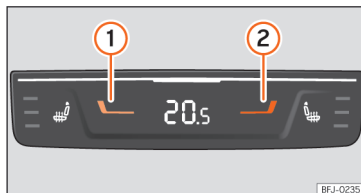

Fig. 114 To the rear of the centre console: Climatronic rear seat temperature controls.
- Press buttons **1** and **2** »» Fig. 114 to adjust the temperature of the rear zone.